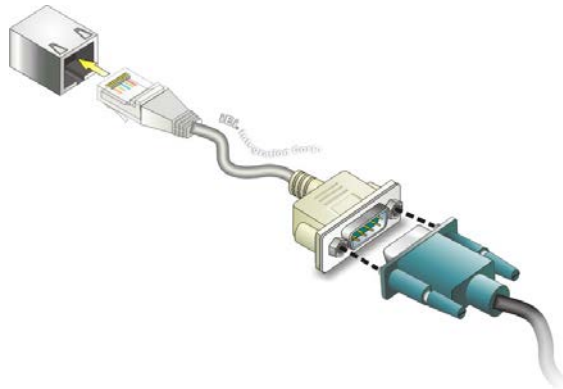

Figure 3-22: Serial Device Connector
Step 3: Insert the serial connector. Insert the DB-9 connector of a serial device into the DB-9 connector on the cable. See **Figure 3-22**.